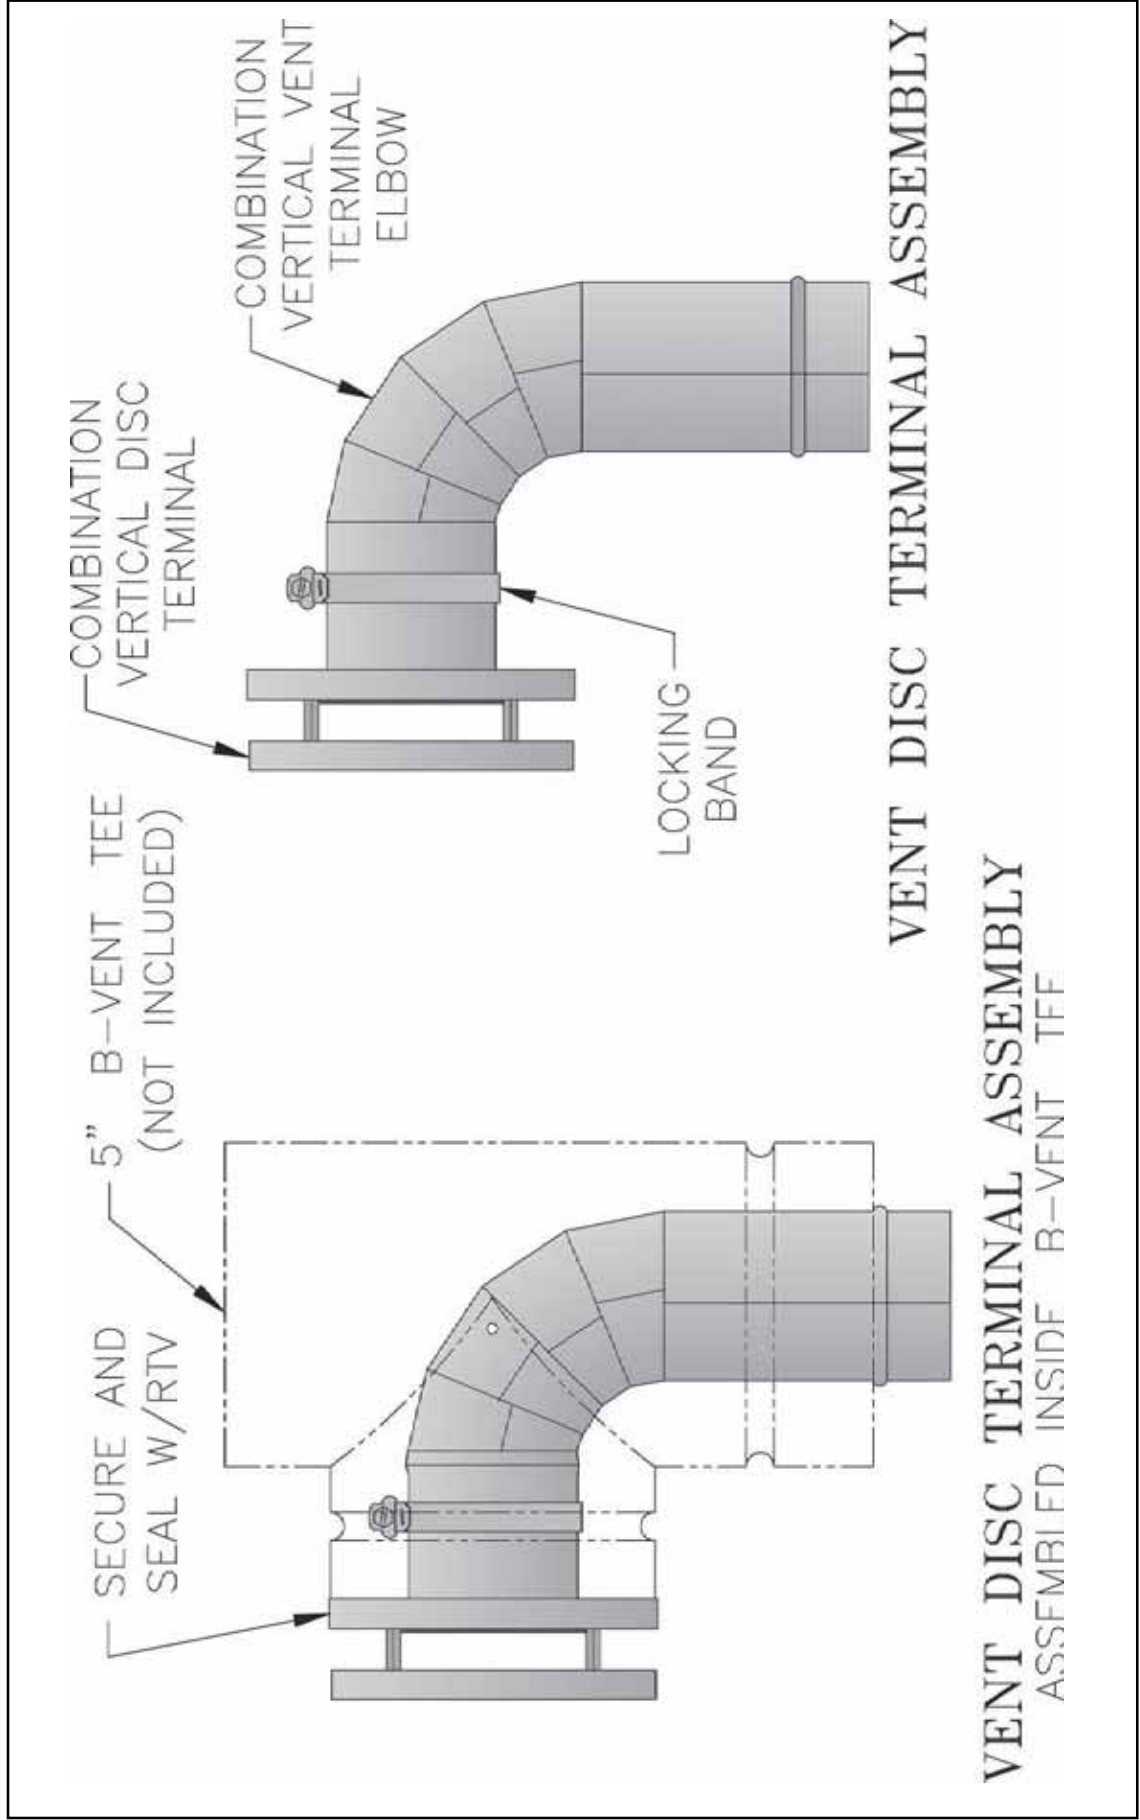

Figure 14: Combination Vertical Vent Disc Terminal Assembly
9. Insert vent disc terminal assembly into horizontal leg of the remaining B-vent tee. See Figure 14. Secure terminal to tee.